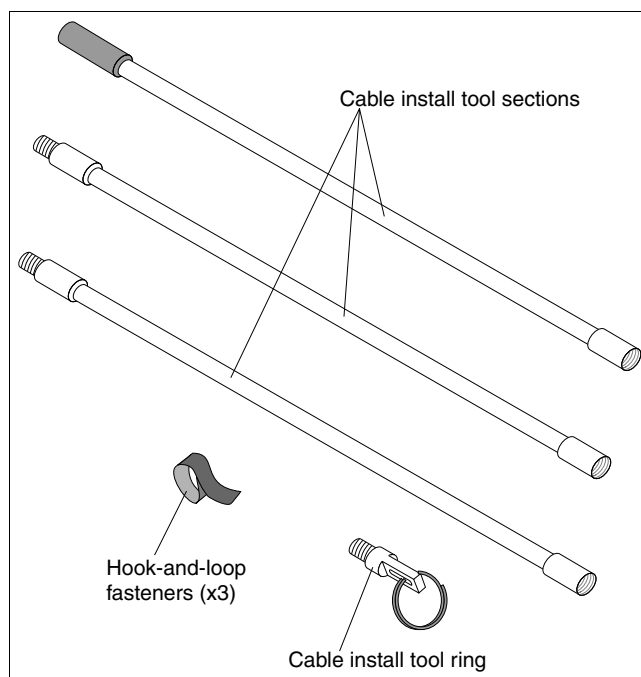

Figure 5-13 Cable routing tool
The NeXtScale System chassis can be installed in other racks. The NeXtScale n1200 Enclosure can be installed in most industry-standard, four-post server racks. Figure 5-13 shows the dimensions of the NeXtScale n1200 Enclosure and included rail kit.
The following features are highlighted in Figure 5-13:
- ▶ To allow adequate airflow into and out of the chassis, adhere to the recommended minimum distances to the front and rear doors, as shown in Figure 5-13 on page 81.